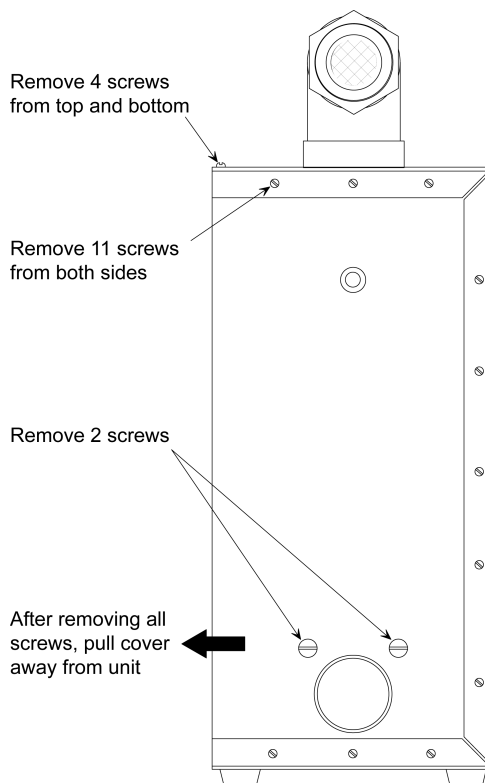

Figure 4-2. Removing the Cover
3. Remove screws from cover as shown in Figure 4-2; then pull cover away from unit.